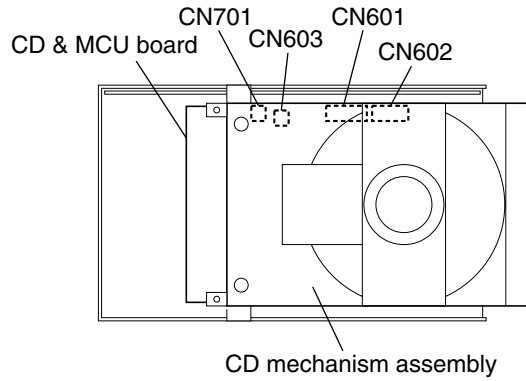

Fig.12
■ Removing the CD mechanism assembly (See Figs. 12 to 14.)